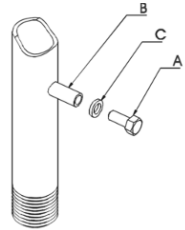

Fig. 1
a) Flow pressure control (fig. 1)